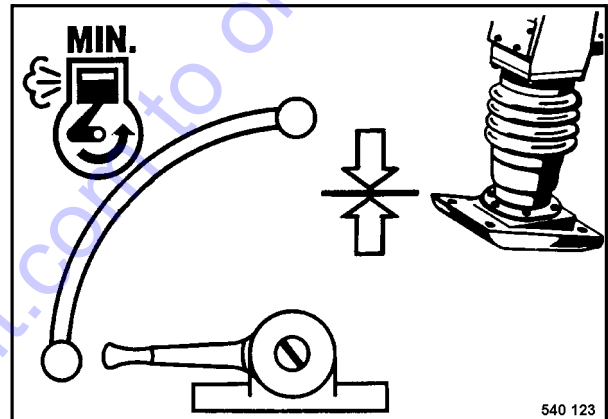

Fig. 2
- Set the throttle lever (Fig. 2) to MIN-position (idle speed).